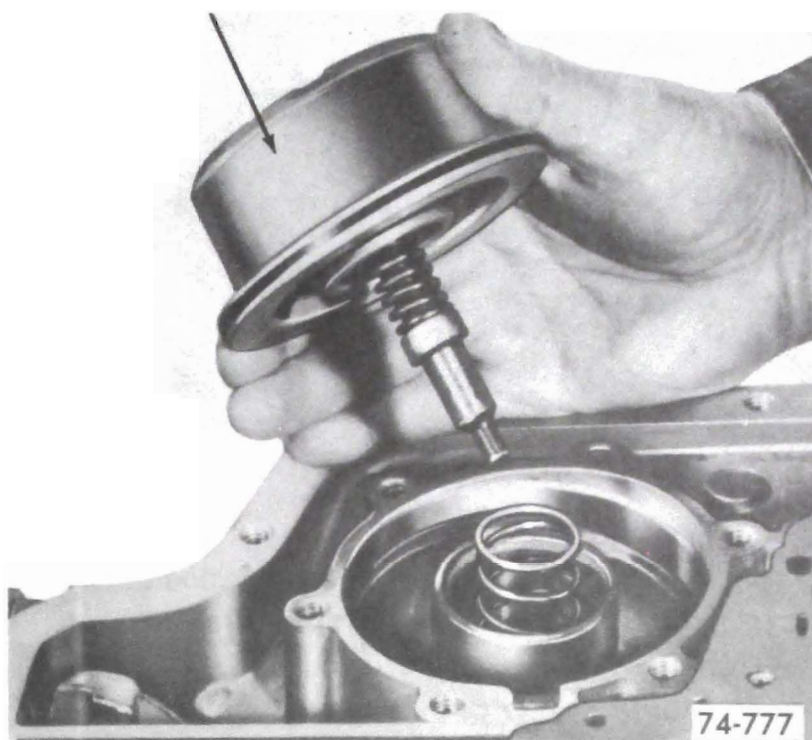

Figure 76-271
2. Install rear servo assembly into case. See Figure 76-271.